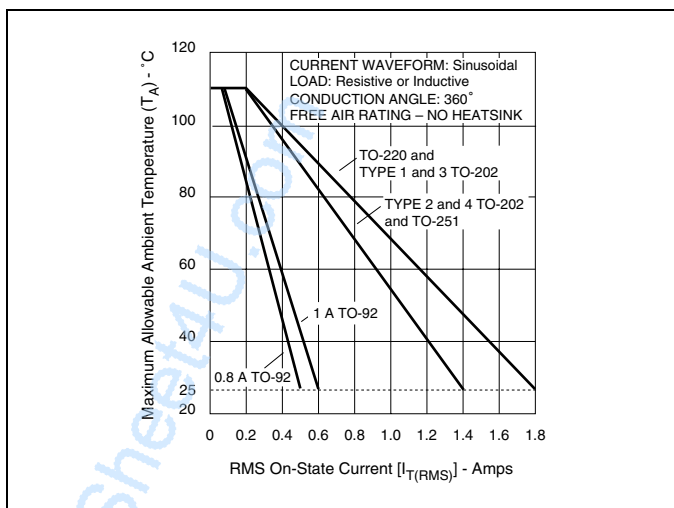
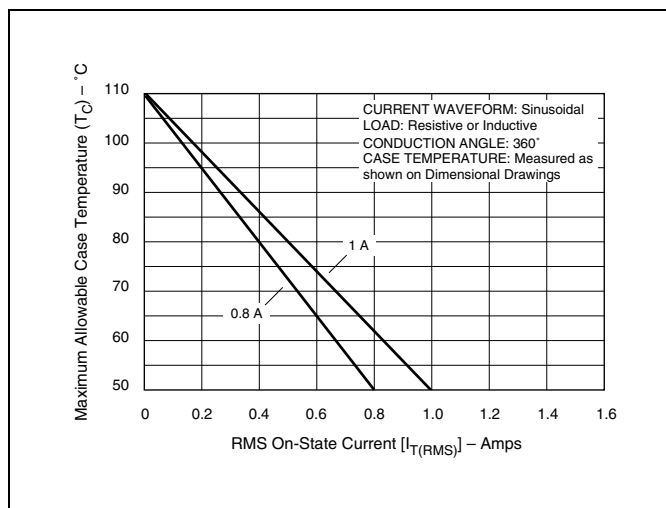
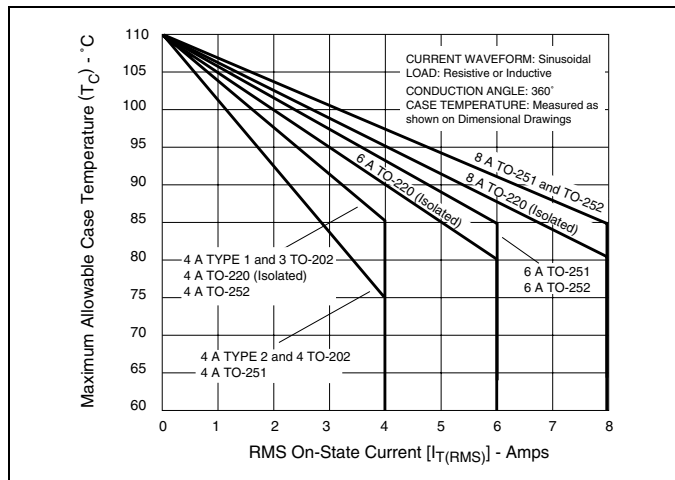

Figure E1.1 Maximum Allowable Ambient Temperature versus On-state Current
Figure E1.2 Maximum Allowable Case Temperature versus On-state Current (0.8 A and 1 A)
Figure E1.3 Maximum Allowable Case Temperature versus On-state Current (4 A, 6 A, and 8 A)
- (10) See Figure E1.2 and Figure E1.3 for maximum allowable case temperature at maximum rated current.
- (11) See Figure E1.1, Figure E1.2, and Figure E1.3 for T_A or T_C versus I_{T(RMS)}.
- (12) See package outlines for lead form configurations. When ordering special lead forming, add type number as suffix to part number.
- (13) Pulse width ≤ 10 μs
- (14) T_C or T_L = T_J for test conditions in off state
- (15) Minimum non-trigger V_{GT} at 110 °C is 0.2 V.